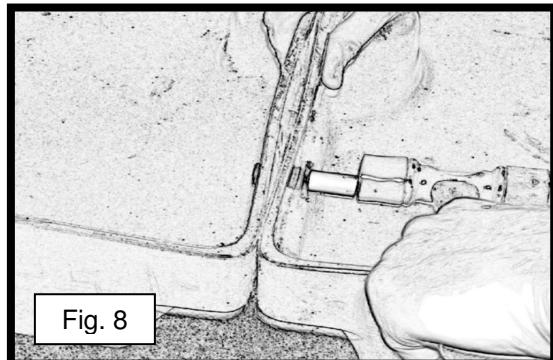

Fig. 8
- 7) Using one hand to keep the accumulation centers from moving, tap the Teflon tube until it moves through the second grommet on the other accumulation center (see fig. 8). **NOTE: If you feel resistance, see instruction #5 for reference.**